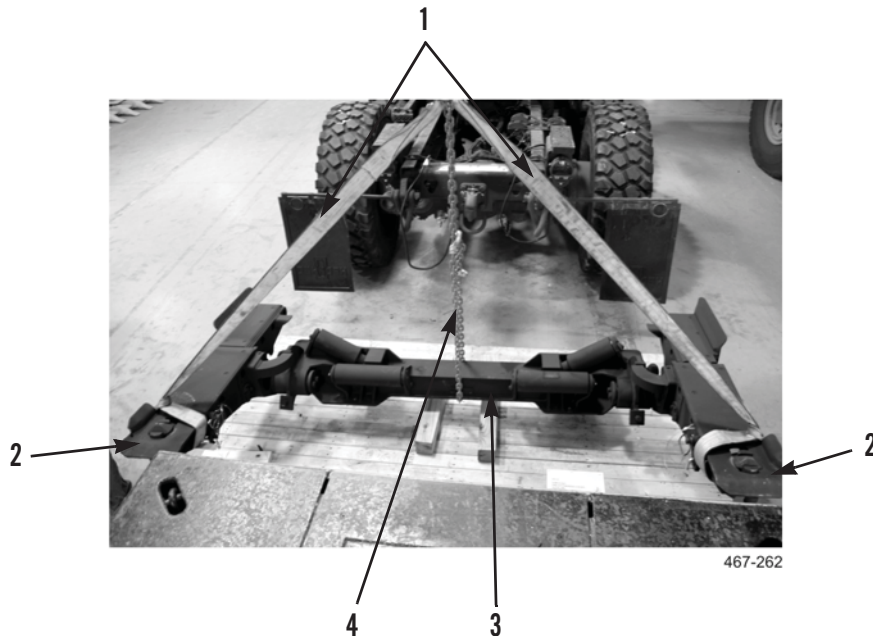

Figure 13. Slider Assembly With Straps.
2. Attach sling and lifting device to slider assembly. Loop one strap (Figure 13, Item 4) around center of beam (Figure 13, Item 3) and two straps (Figure 13, Item 1) on right and left twistlock housings (Figure 13, Item 2). Adjust placement of straps until slider assembly is level when raised.